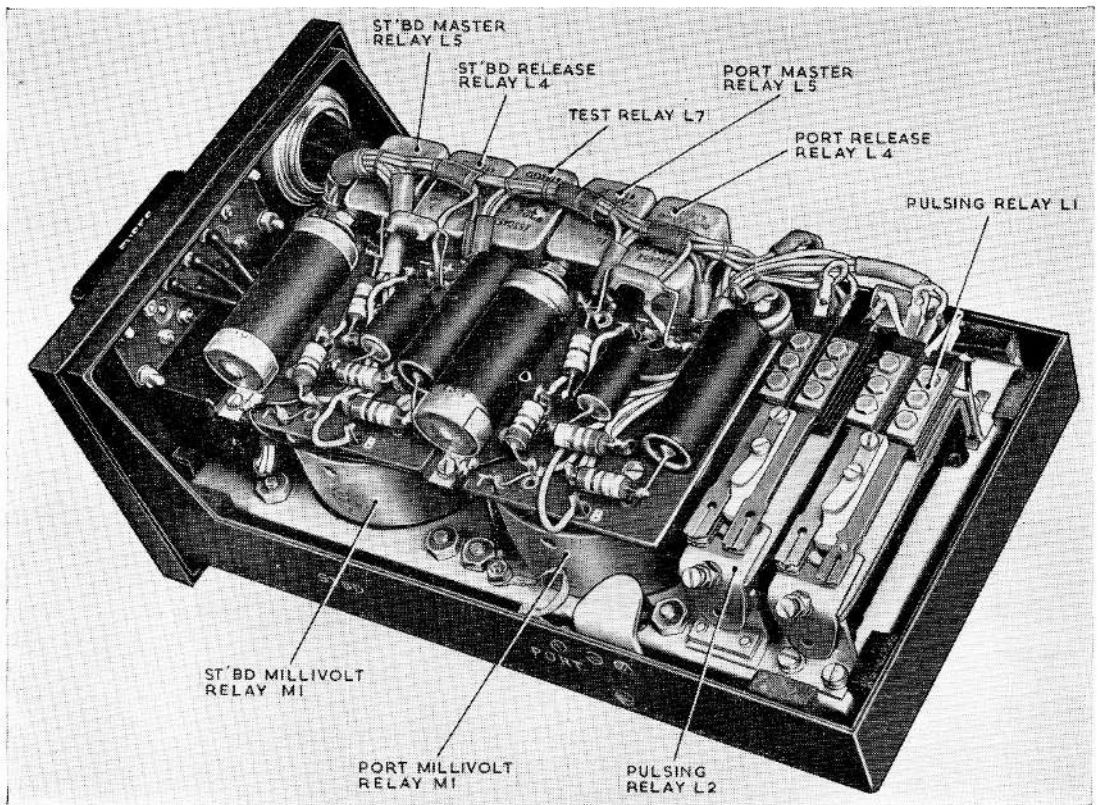
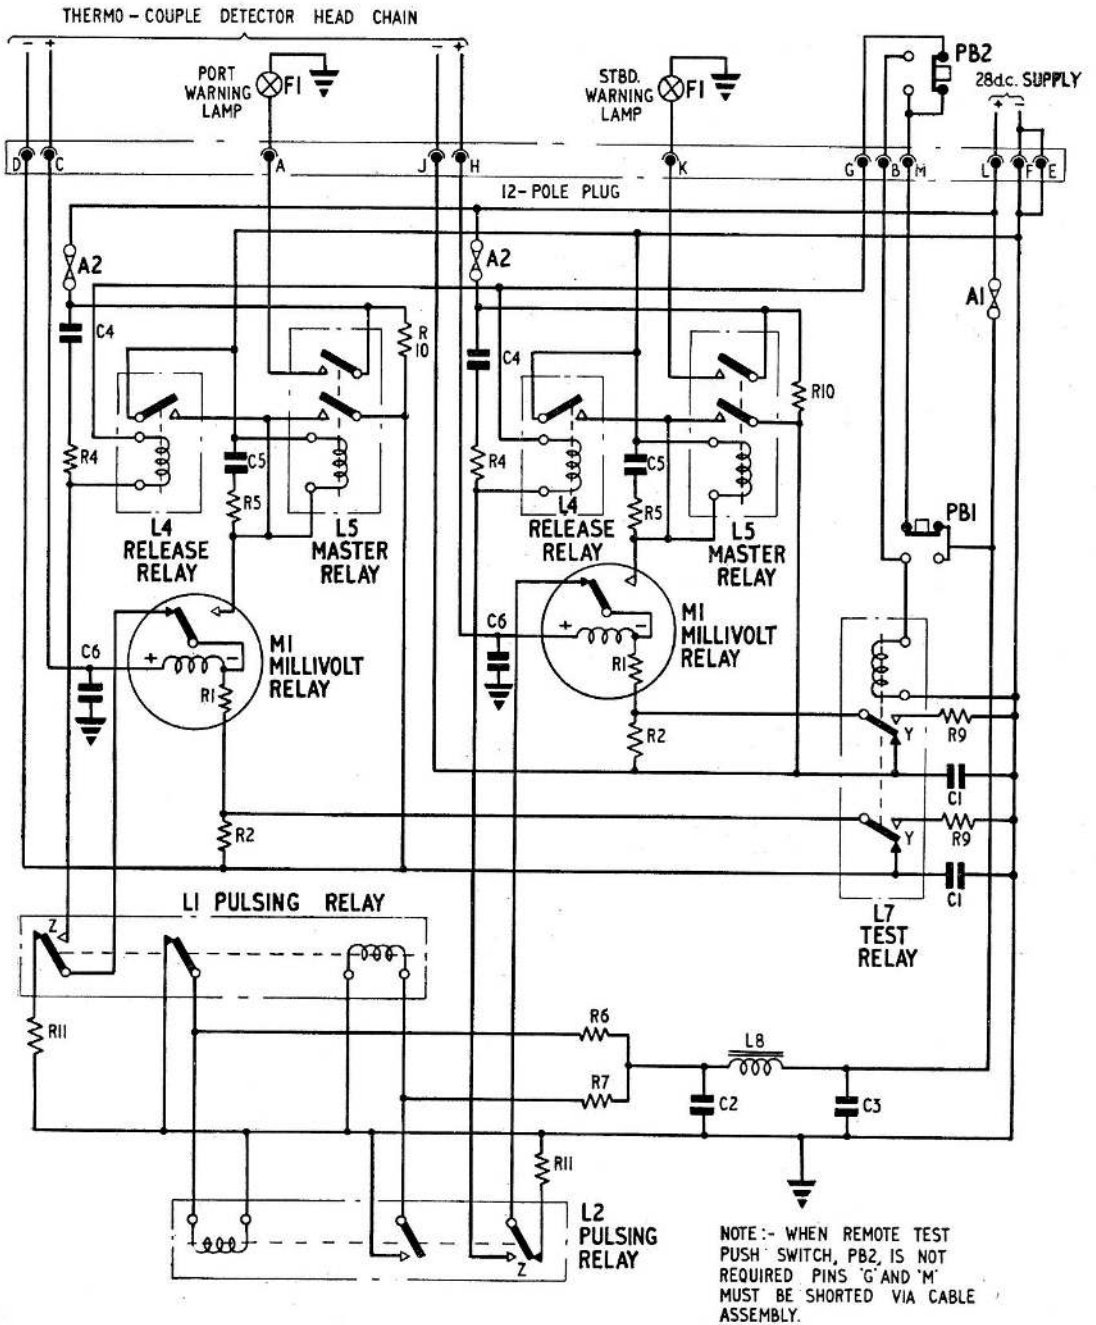

Fig. 2. Control unit with cover removed
Fig. 4. Circuit diagram of control unit and external connections
utilising the change-over (Z) contacts of both relays in the 'knock-off' circuit to the millivolt relays of the fire warning circuits. The components of the unit are illustrated in fig. 2 and fig. 4 is a theoretical circuit diagram.